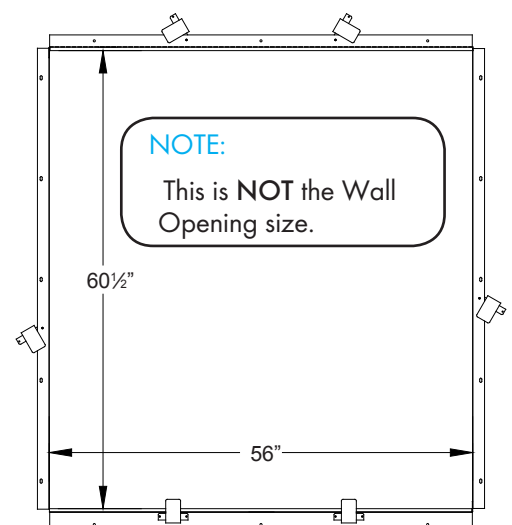
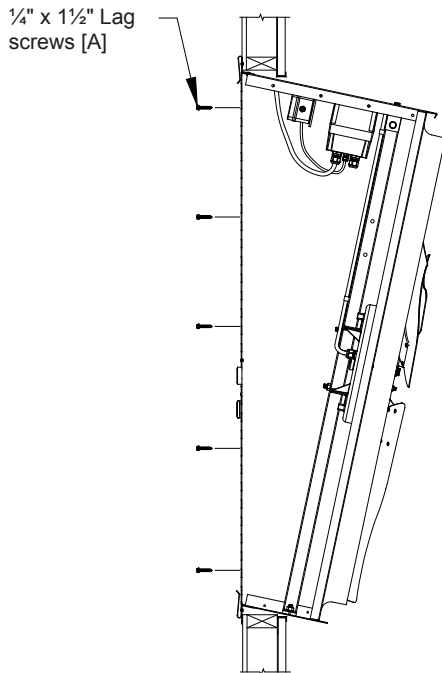

Figure 4A
Figure 4B
Confirm that housing inside dimensions match those shown in Figure 4A. Then secure left and right flanges to wall using (10) Screws [A] (provided). *See Figure 4B & 4C.*